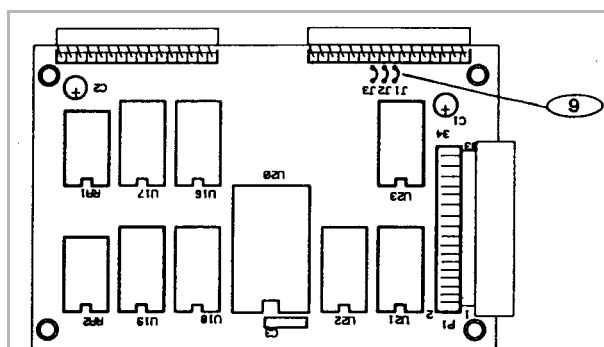

Figure 1-4 *Display Printed Circuit Board.*
3. With the plate removed you will see the display printed circuit board (Figure 1-4). Locate **9**, jumpers J1, J2, and J3.